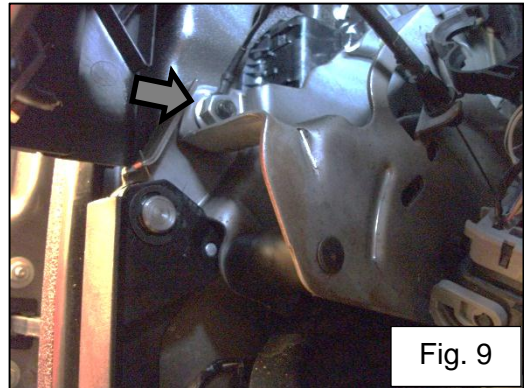

Fig. 9
9. Ground the multi-channel amplifier harness to the nut securing the parking brake. Fig. 9